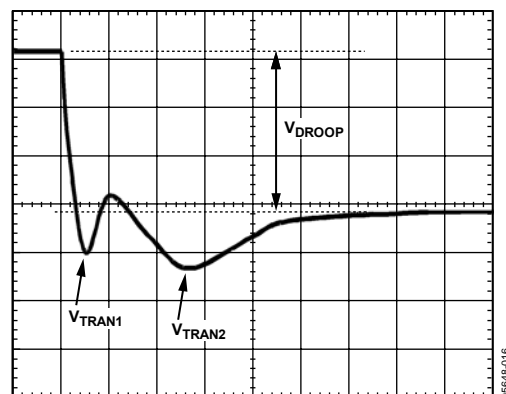
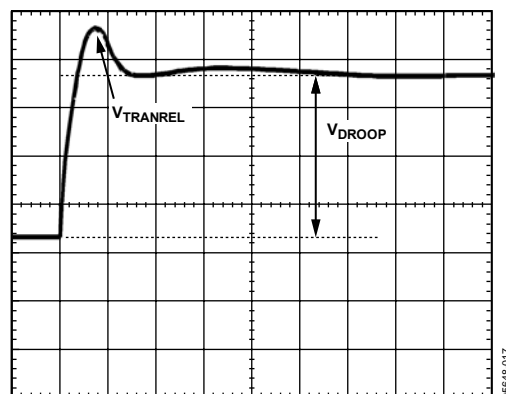

Figure 15. Transient Setting Waveform
Figure 16. Transient Setting Waveform
18. With the dynamic load still set at the maximum step size, expand the scope time scale to see 2  $\mu$ s/div to 5  $\mu$ s/div. The waveform may have two overshoots and one minor undershoot (see Figure 15). Here,  $V_{DROOP}$  is the final desired value.
20. For load release (see Figure 16), if  $V_{TRANREL}$  is larger than  $V_{TRAN1}$  (see Figure 15), there is not enough output capacitance. Either more capacitance is needed or the inductor values need to be smaller. If inductors are changed, start the design again using the spreadsheet and this tuning procedure.